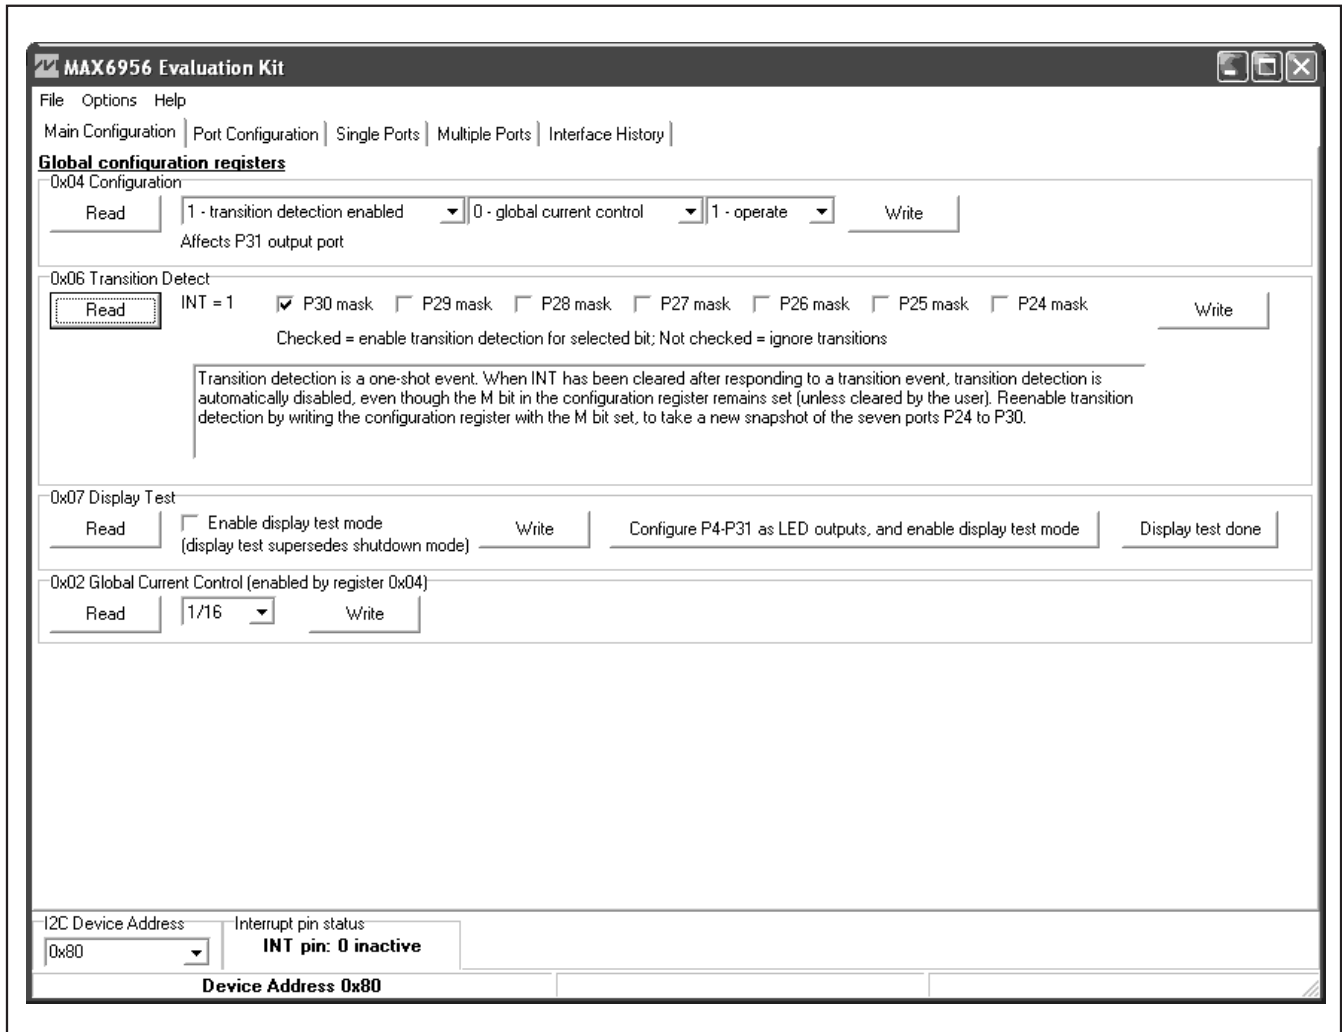

Figure 1. MAX6956 EV Kit Software Main Window (Main Configuration Tab)
- 6) Start the MAX6956 EV kit software by opening its icon in the **Start | Programs** menu. The EV kit software main window appears, as shown in Figure 1.
The MAX6956 EV kit software provides a graphical user interface (GUI) to configure the EV kit hardware. See Figures 1–4.
- 3) Select the **Main Configuration** tab (Figure 1). In the **0x06 Transition Detect** group box, check **P30 mask** and press the **Write** button.